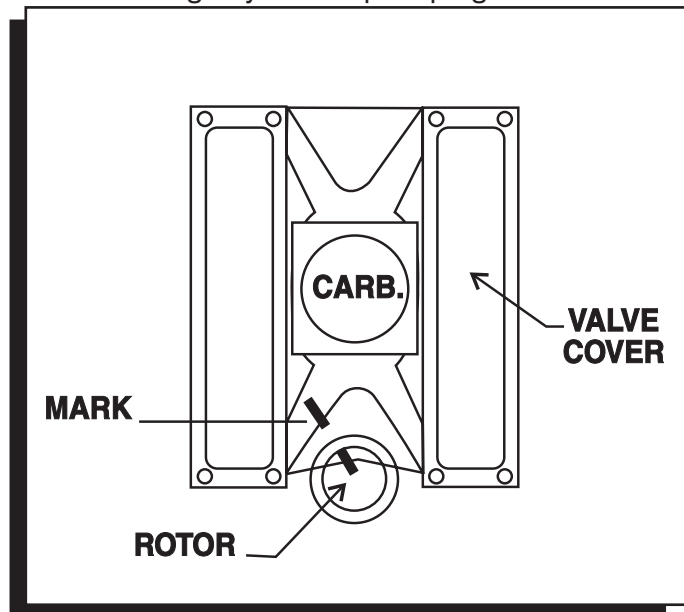

Figure 10 Marking the Rotor Location.
2. With the cap off, crank the engine until the rotor is aimed at a fixed point on the engine. Note this position by making a mark (Figure 10).